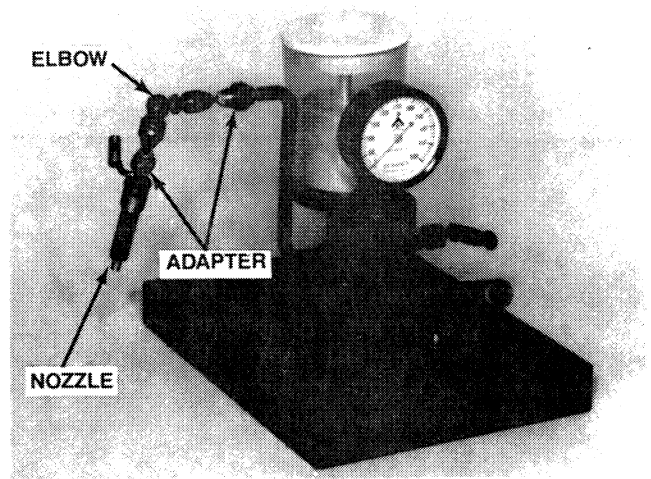

Figure 8-17. Injector Test Stand Connections
(2) See figure 8-17. Connect the injector to the test stand. The nozzle tip must be down. Use test pump adapters (table 2-1) and elbow.